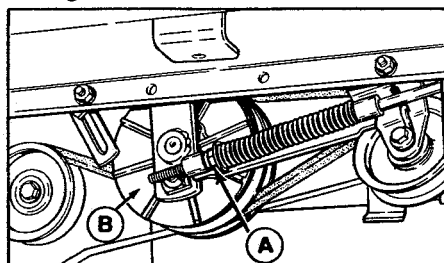

Figure 26. Adjustment Nut
10. Adjust the nut (A, figure 26) until the variator pulley (B) contacts underside of frame (rotate pulley by hand to determine when contact occurs). Then back off adjusting nut two full turns.